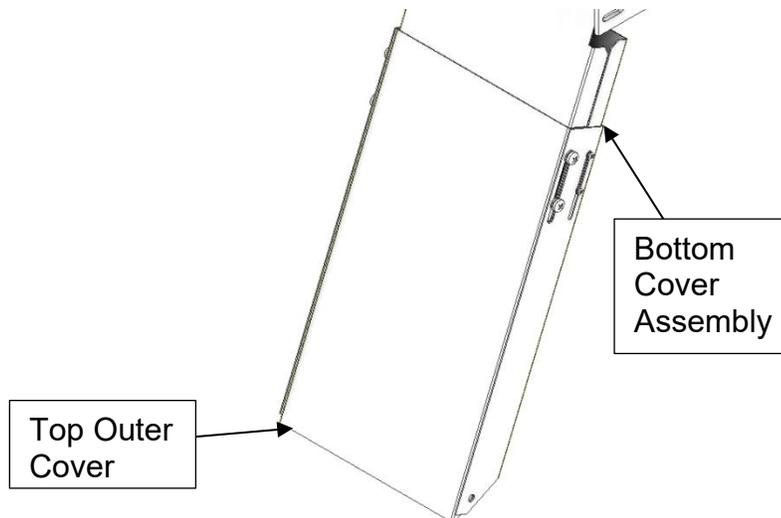

Figure 17
4. Place the top outer cover over the top inner cover and attach the top inner cover, top outer cover, and bottom cover assembly using the M8 bolts as shown in Figure 17. Again, leave these bolts loose to allow the covers to slide.